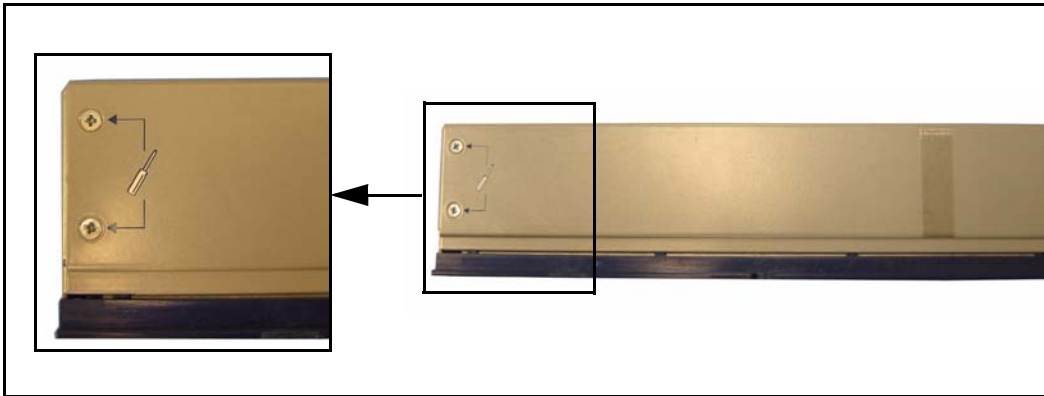

Figure 3-19 The two side panel screws.
1. Remove the two screws on the side panel of the RXT media (Figure 3-19).